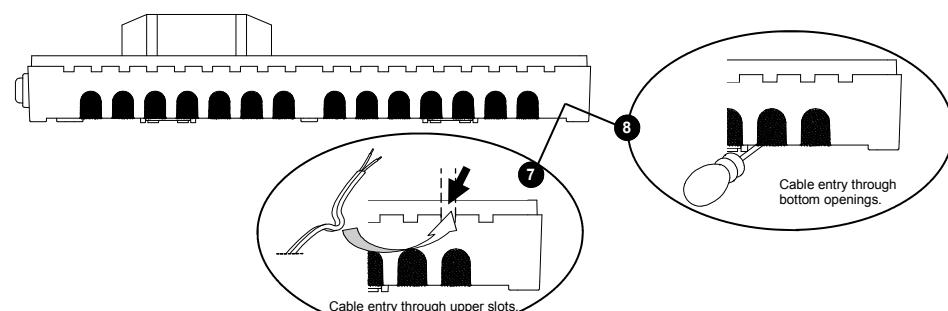

Fig. 2: Cable entry instructions.
Using pliers, carefully remove the plastic 'teeth' shown arrowed **⑦**, Fig. 2, then after connecting the cable to the appropriate terminal, bend it as shown in Fig. 2 and clamp using the clamps provided.
Pierce the sponge as shown in item **⑧**, Fig. 2, then pass the cable through the sponge into the centre. Make the electrical connections to the appropriate terminals and clamp using the clamps provided.